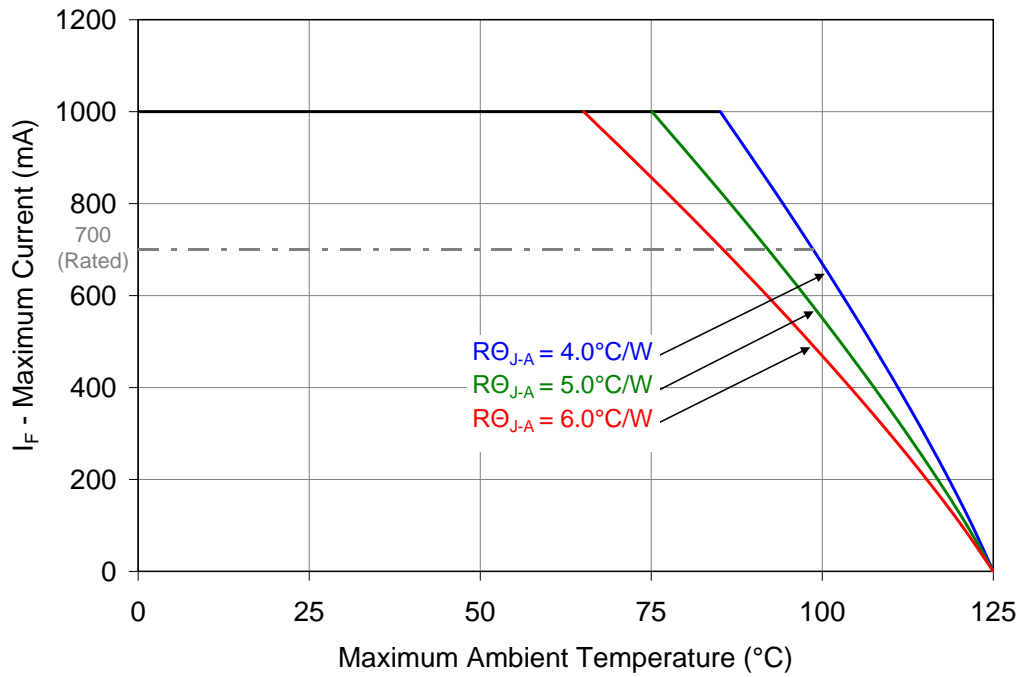

Figure 11: Maximum forward current vs. ambient temperature based on  $T_{J(\text{MAX})} = 125^{\circ}\text{C}$ .
- Maximum DC forward current (per die) is determined by the overall thermal resistance and ambient temperature. Follow the curves in Figure 11 for current derating.
### Notes for Figure 11: